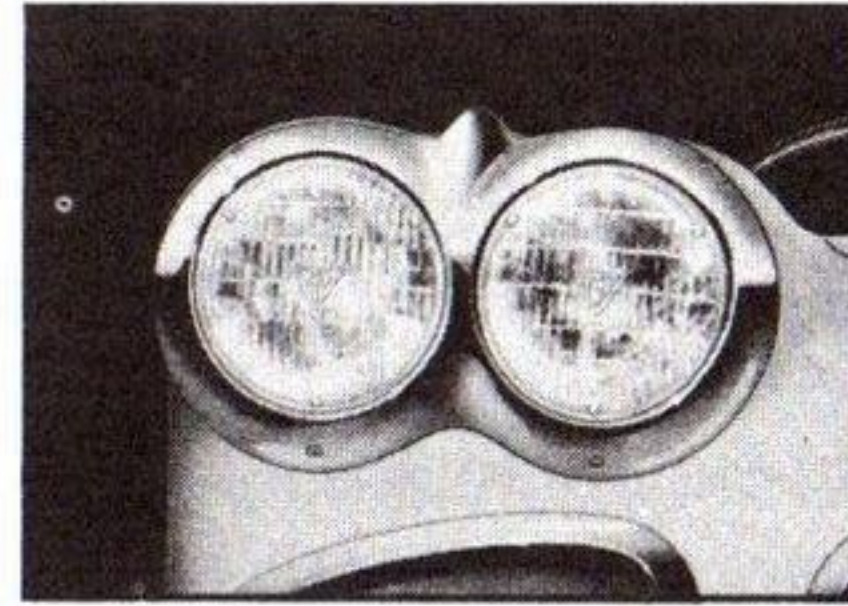

Fig. 46—Headlamps
1. Remove the four screws securing the headlight door (fig. 46).